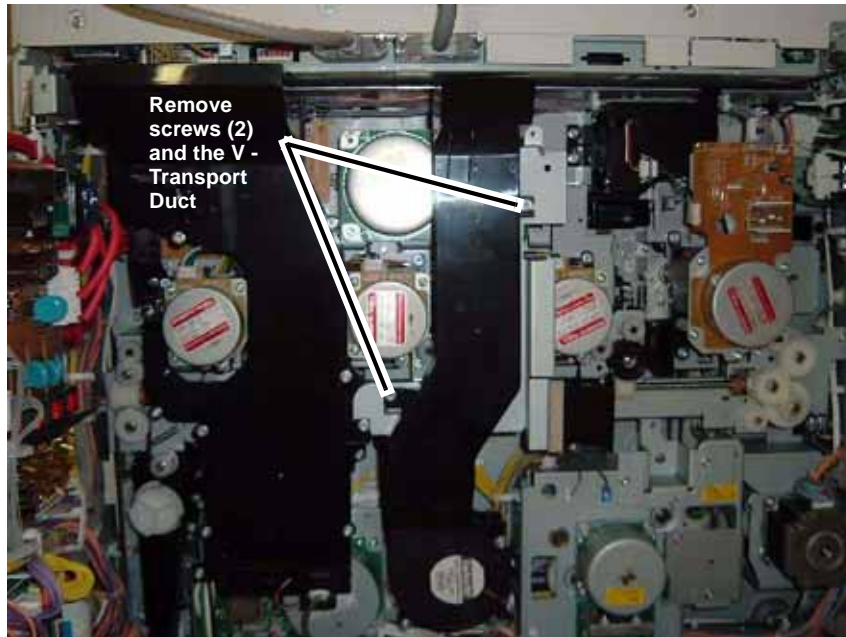

Figure 2 Removing the V - Transport Duct
3. Remove the V-Transport Duct (Figure 2).